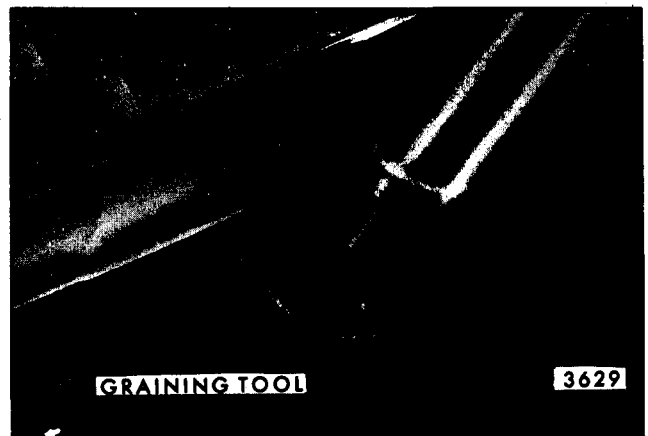

Fig. 11-19-Vinyl Patching Compound Curing and Graining
4. Graining operation is performed by exerting light hand pressure and applying preheated graining iron over damaged compound filled area for approximately one and one half minutes (see Figs. 11-19 and 11-20).